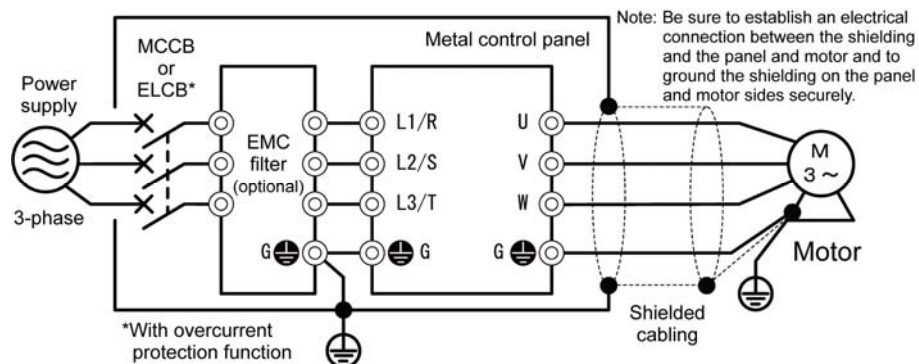

Figure 9.3 Installation inside a Panel
- 5) When using an externally connected EMC filter (optional), place the inverter and filter on a grounded metal plate such as the surface of a panel, as shown in Figure 9.3. If noise emissions exceed the standard, place the inverter and any peripheral equipment inside a metal panel. For more information about how to use the inverter in combination with a filter, see Table 9.4.
Note that connection to the industrial low-voltage power lines is an exception. (See Figure 9.3.)